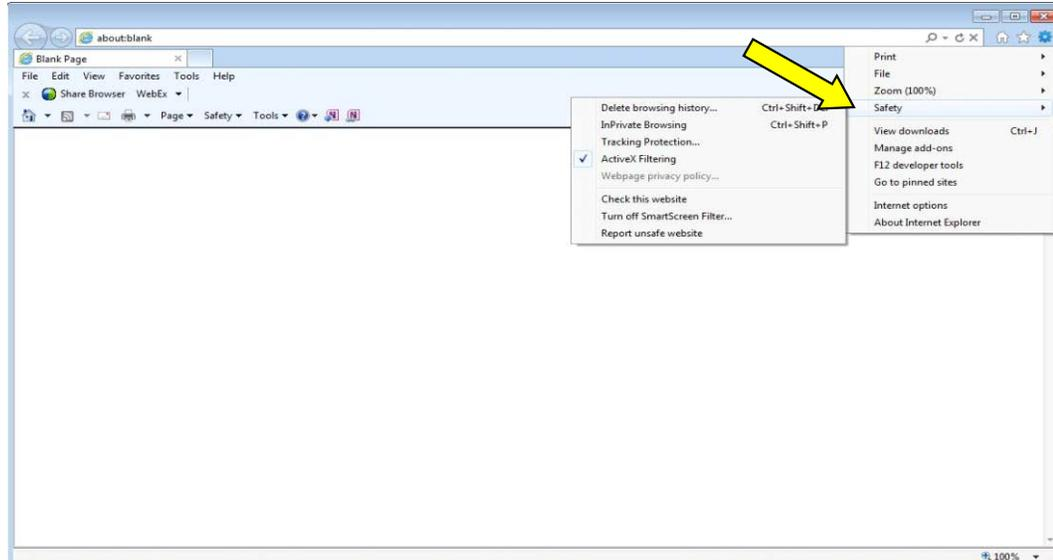

Figure 5-8: Safety sub-menu in Internet Explorer 9
- b. Hover over Safety to expand the **Safety** submenu, as shown in Figure 5-8.